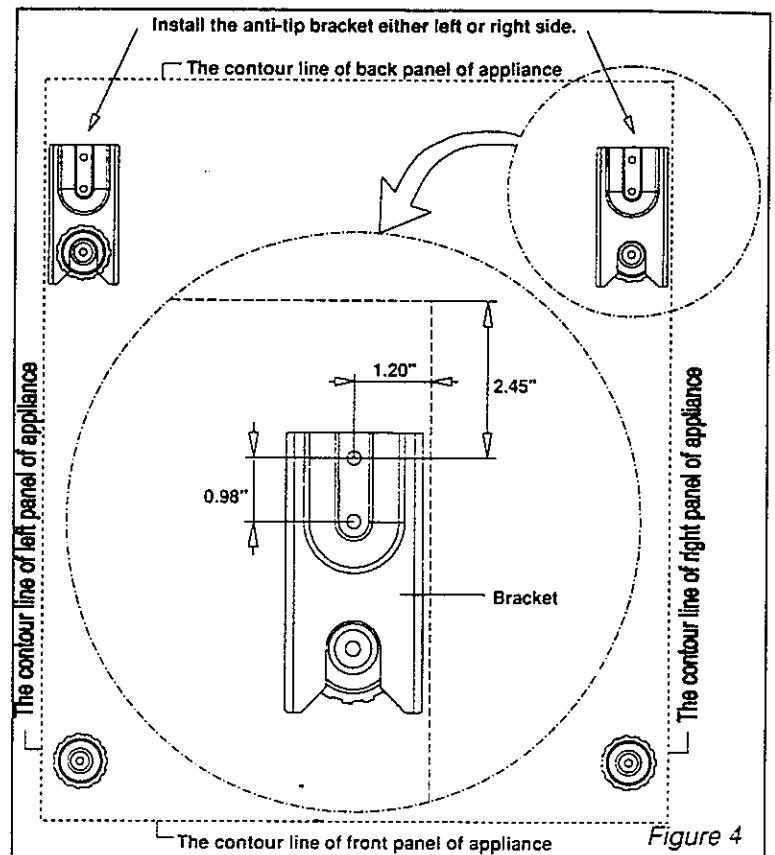

Figure 4
- 1- Place the anti-tip bracket on the floor as shown in Figure 4. Anti-tip bracket can be installed on either right or left side.